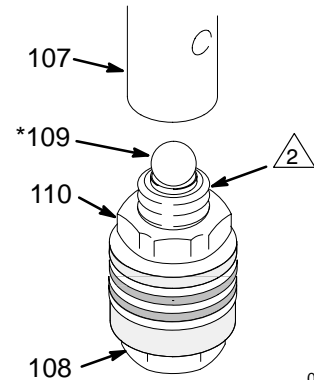

Fig. 20
- Tighten the nut (110) onto the piston valve (108) to 5 in-lb (0.57 N.m). See Fig. 20.
**NOTE:** Note the alignment of the piston (108) to the nut (110). Maintain this alignment through Step 8.
- Place the ball (109\*) on the piston valve (108). See Fig. 20.